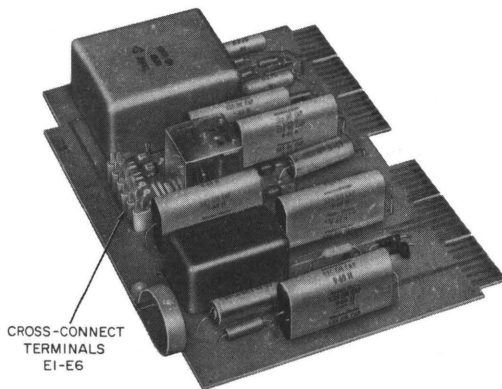

Fig. 1—112A Interconnecting Unit
- Unit, Interconnecting, 112A (one per CO trunk, Fig. 1).
3.08 If the incoming CO trunk is 600 ohms, strap E1 to E2 and E4 to E5. If the incoming CO trunk is 900 ohms, strap E1 to E3 and E4 to E6 (Fig. 1 and 7). Check connections for continuity after strapping to make sure terminals cut through insulation.